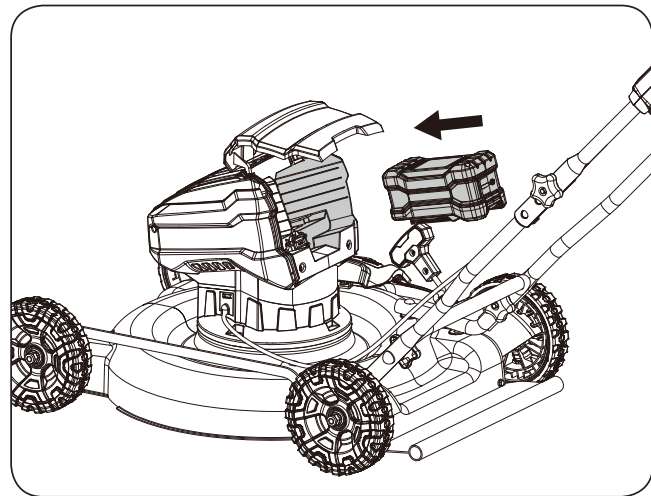

Figure 5
2. Align the battery with the right battery port. Make sure the battery release button snaps in place and the battery is fully seated and secure in the mower before beginning operation. (See **Figure 5**)